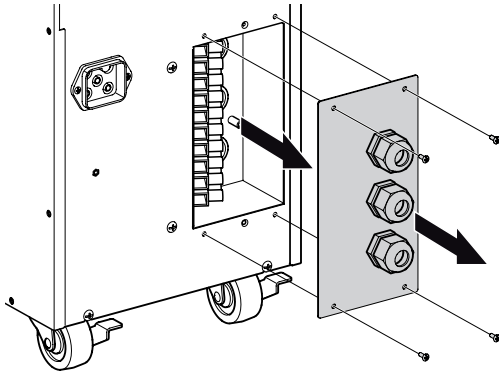

Figure 16. Access to terminal block.
1. Access to terminal block: remove the 4 screws of the terminal block cover (see figure 16)